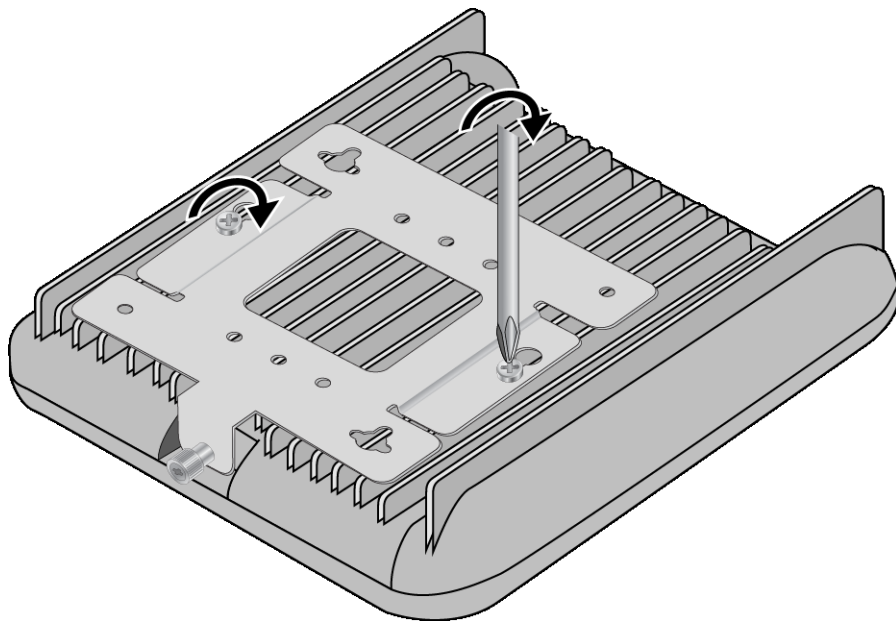

Figure 13. Tightening the Bracket Screws
5. Tighten the two bracket screws. Refer to Figure 13.